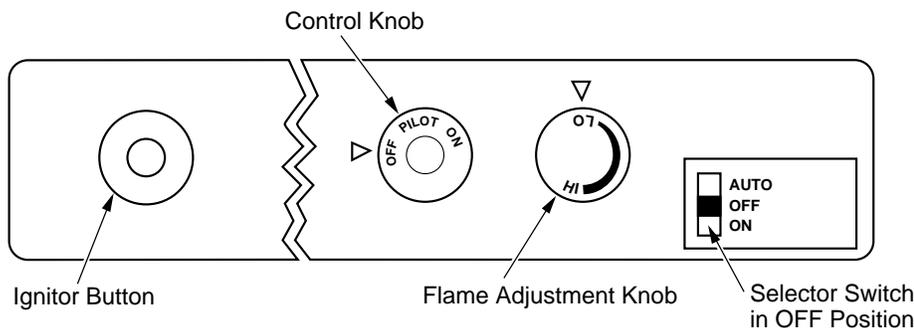

Figure 29 - Control Knob and Ignitor Button Location
4. Press in and turn control knob clockwise  to the OFF position (see Figure 29).
5. Wait five (5) minutes to clear out any gas. Then smell for gas, including near the floor. If you smell gas, STOP! Follow "B" in the safety information, starting in column 2, page 18. If you don't smell gas, go to the next step.
6. Press in and turn control knob counterclockwise  to the PILOT position. Press in control knob for five (5) seconds (see Figure 29).